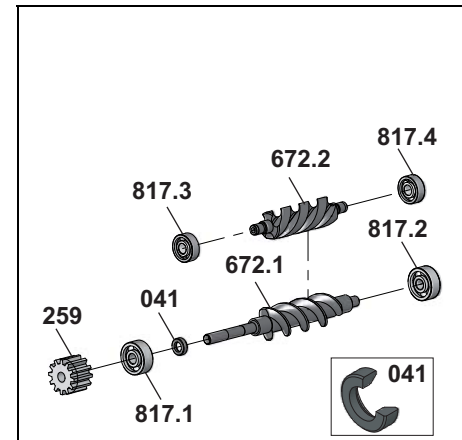

Fig. 3
4. Pull the pole wheel **259**, ball bearing **817.1**, sleeve **041** and ball bearing **817.2** from the large measuring screw **672.1** and the ball bearings **817.3** and **817.4** from the small measuring screw **672.2**, see Fig. 3, page 29.
- Slide the sleeve **041** onto the large measuring screw **672.1**, while taking the mounting direction into account, see Fig. 3, page 29.